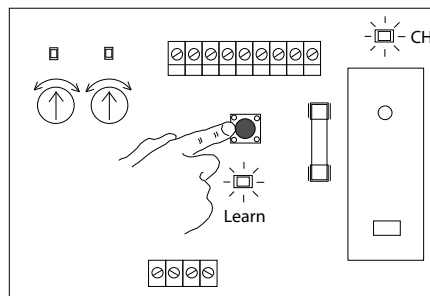

Fig. 4.8.3
Press red pushbutton 4 times (within 3 seconds total time) to switch remote channel. Switch is confirmed by green LED (CH). See fig. 4.8.3.